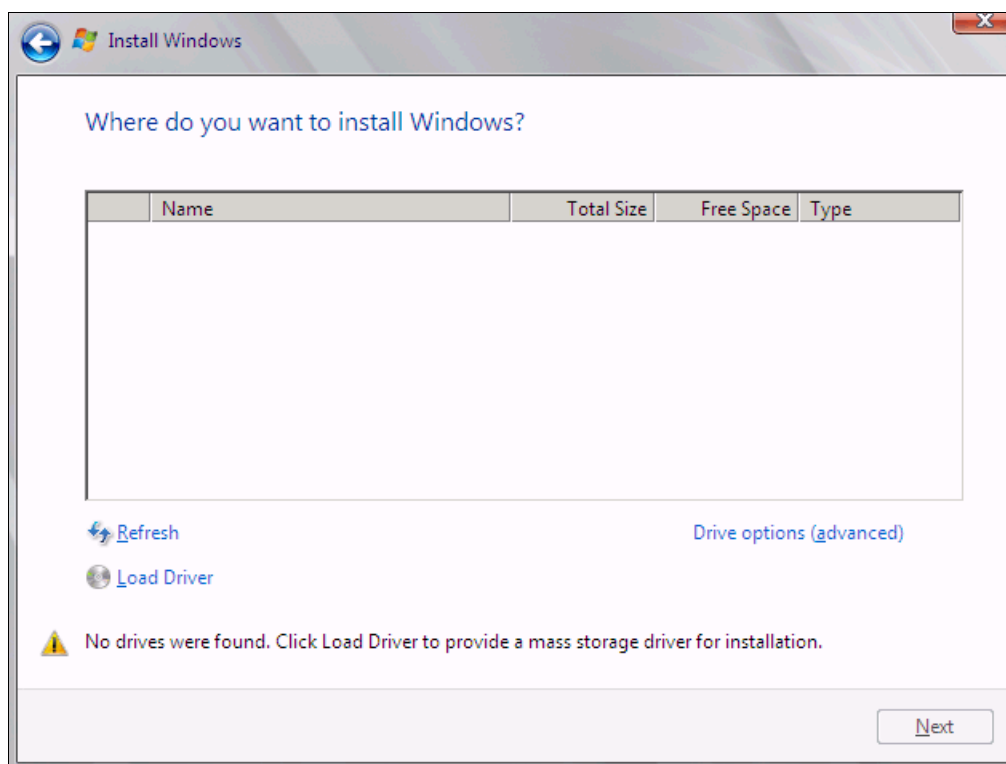

Figure 9-132 No disk shown
- 12.If no disks are displayed (Figure 9-132), insert the media that contains the drivers. The media can be in the form of a USB key, CD, or DVD, on a remotely mounted ISO. Then click **Load Driver** to load a driver for your storage device (Emulex card).